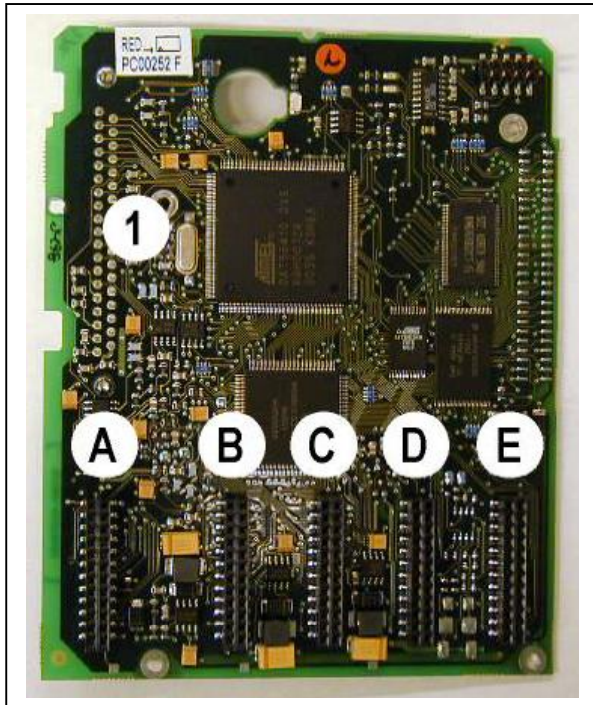

Figure 6-23. NX control board
The control unit of the AC drive consists roughly of the control board and additional boards (see Figure 6-23 and Figure 6-24) connected to the five *slot connectors* (A to E) of the control board. The control board is connected to the power unit through a D-connector (1) or fibre optic cables (FR9).